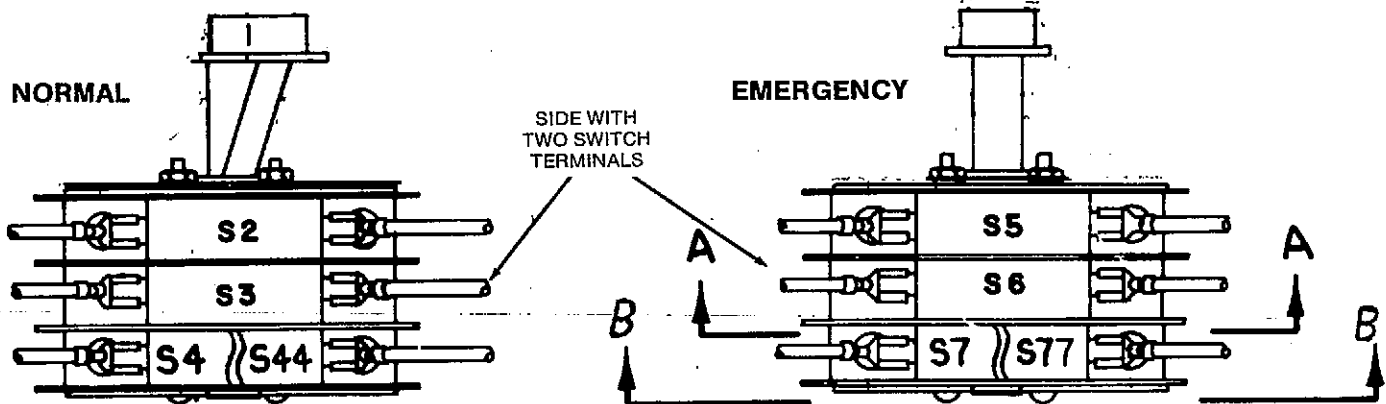

FIGURE 24. AUXILIARY SWITCHES
3. Remove the control wiring leads from the auxiliary switch terminals (see Figure 24).
6. Remove the round head machine screws and nuts that secure the auxiliary switches to the bracket (see Figure 24); and lift out the three auxiliary switches, insulating barriers, and switch lever.
1. Place the auxiliary switch lever in the bracket as shown in Figure 24.
2. Install the flat washers (4) insulating barriers (4), and auxiliary switches (3) in the bracket; and secure with round head machine screws (2) and nuts (2). Note that each switch must be assembled so the side with two terminals faces inward (see Figure 24) when the auxiliary switch assembly is installed on the base.
4. Install control wiring leads on the corresponding switch terminals. Leads are marked with the terminal numbers (S2/NO, S5/NC, S7/C, etc.) for identification. Refer to Figure 24 for identification of auxiliary switch terminals.
5. Place red plastic switch cover in position and secure with machine screws (4) and flat washers (4). Tighten to 25 to 30 in-lbs (2.8 to 3.4 N•m) torque.